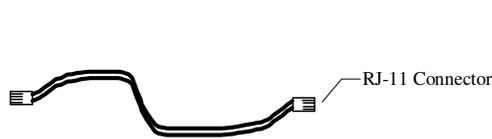
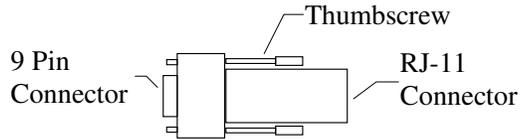

Figure 1: Network Cable (7' or 25')
Figure 2: Computer to Network Adapter
- 1) Computer to network adapter (Figure 2).
- 3) Network cable, 7' or 25' (Figure 1).
- 1) Attach either end of the “Network Cable” (Figure 1) to the “Network Adapter” (Figure 2) RJ-11 connector.